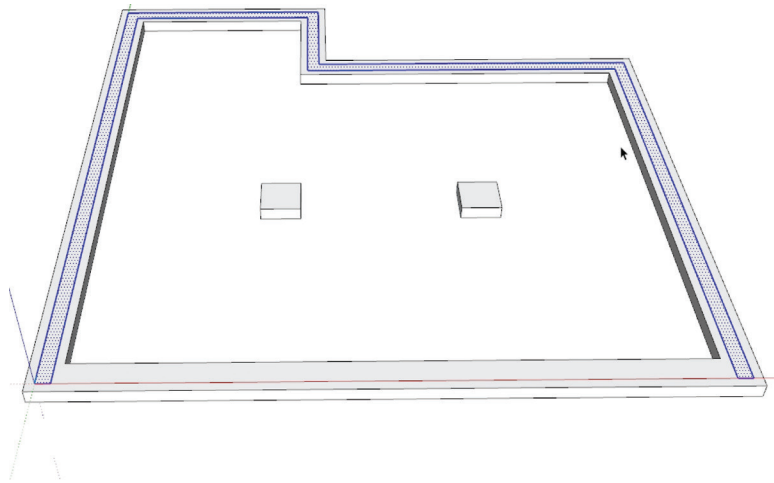

Figure 10.26 CMU Faces.
23. Okay, I told you that I would not forget to bring back our CMU faces. Now, we can do that safely without them sticking to our footings. To bring them back, simply choose Edit > Paste In Place (again, a keyboard shortcut of your preference is a good idea). Voilà! You now have your CMU faces ready for extrusion (Figure 10.26).